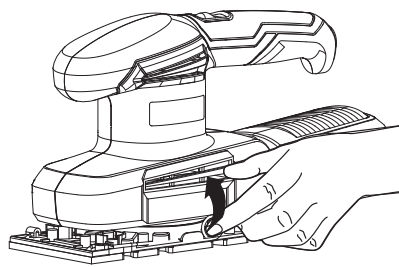

Fig. A1
1. FITTING THE SANDING PAPER WITHOUT HOOK&LOOP SYSTEM (SEE FIG. A1, A2, A3)